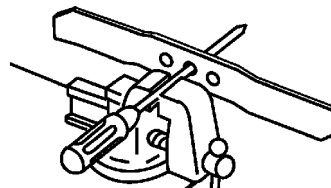

Figure 29
1. Check the balance of the blade by placing the center hole of the blade over a nail or a screwdriver shank clamped horizontally in a vise (Fig. 29).